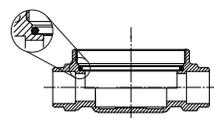

Fig. 3
- 1.8. Insert the new O-ring provided with the measurement capsule into the FMT (Fig. 3). It must be well lubricated.